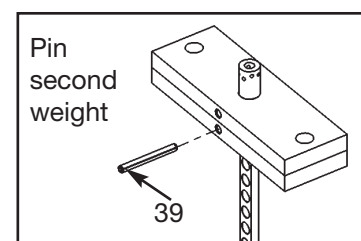

Figure 15
- K.** Slide the top weight plate onto second plate and carefully pound the spring pin into the second weight plate hole, securing second plate to the top plate. See Figure 15. **NOTE:** *Insert pin so that it is flush with the weight plate.*